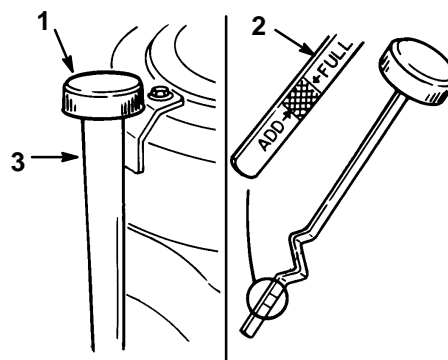

Figure 18
3. Clean around the oil dipstick (Fig. 18) so dirt cannot fall into the filler hole and damage the engine.
4. Unscrew the oil dipstick and wipe the metal end clean (Fig. 18).
5. Slide the oil dipstick fully into the filler tube, do not thread onto tube (Fig. 18). Pull the dipstick out and look at the metal end. If oil level is low, slowly pour only enough oil into the filler tube to raise the level to the “FULL” mark.
7. Slowly pour approximately 80% of the specified amount of oil into the filler tube (Fig. 18). Now check the oil level; refer to Checking Oil Level, page 21. Slowly add additional oil to bring to "FULL" mark on dipstick.